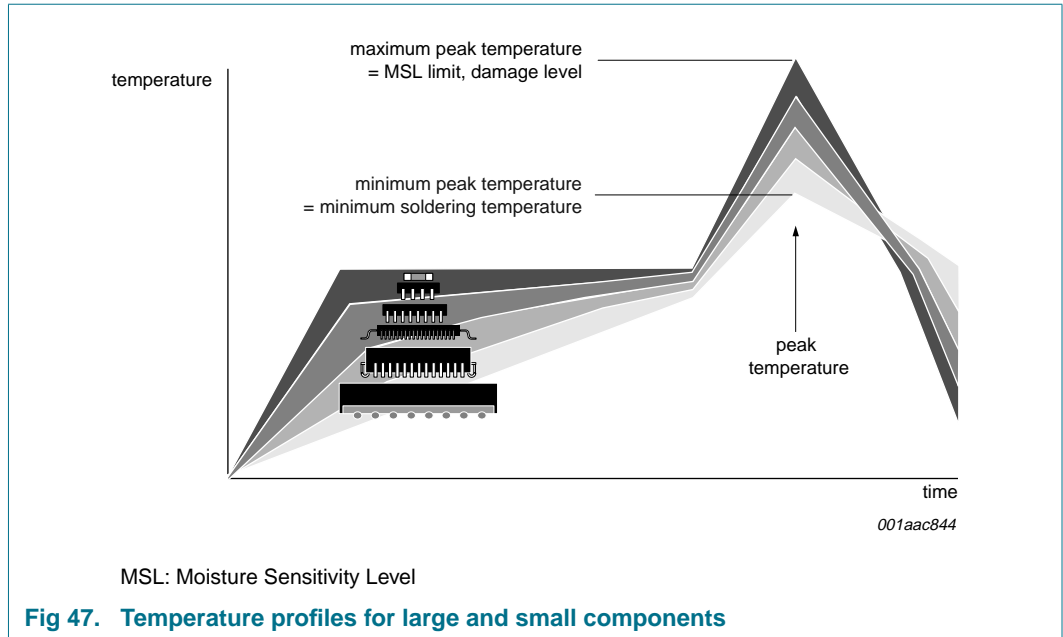

Fig 47. Temperature profiles for large and small components
- Lead-free versus SnPb soldering; note that a lead-free reflow process usually leads to higher minimum peak temperatures (see Figure 47) than a SnPb process, thus reducing the process window
Studies have shown that small packages reach higher temperatures during reflow soldering, see Figure 47.